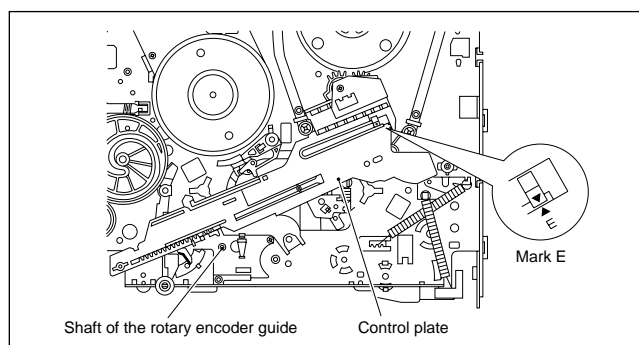

Fig. 2-2-13b
- (1) Slide the control plate so that its mark E is aligned with the mark ▼ on the loading arm gear shaft. (See Fig.2-2-13b.)